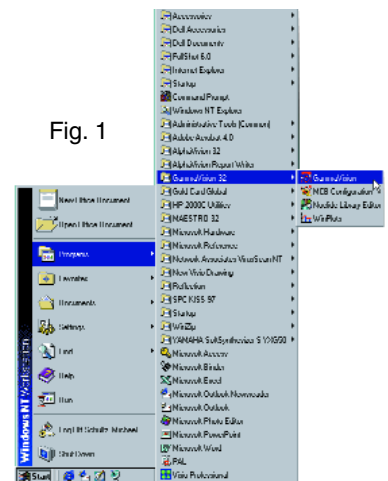

Fig. 1
1.2 From the Windows desktop, click **Start, Programs, GammaVision-32, GammaVision** (Fig. 1). This will invoke the GammaVision software. Your view will be of the Multichannel Analyzer (MCA) emulator window. The MCA emulator window is the main interface for working with GammaVision. There are nine menus to choose from: